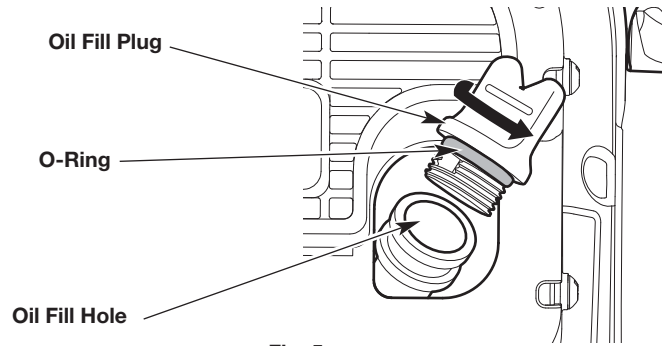

Fig. 5
2. Unscrew the oil fill plug (Fig. 5).
3. Pour the entire container of oil into the oil fill hole (Fig. 5). **DO NOT** overfill. Refer to *Checking the Oil Level*.
NOTE: Make sure the O-ring is in place on the oil fill plug (Fig. 5).